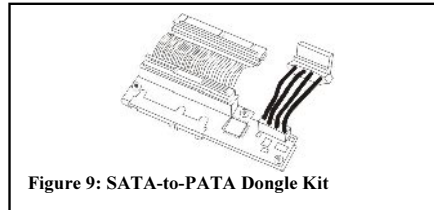
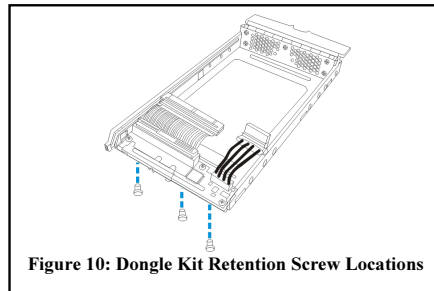

Figure 9: SATA-to-PATA Dongle Kit
Figure 10: Dongle Kit Retention Screw Locations
1. The dongle kit is mounted onto a metal base plate that has three (3) pre-drilled holes reserved for retention screws. (See Figure 9)
2. Three (3) corresponding pre-drilled screw holes are located at the back of the drive tray.
4. Insert the three (3) provided retention screws from the bottom of the drive tray. These screws firmly secure the dongle kit to the drive tray and facilitate the installation of the appropriate drive. (See Figure 10)